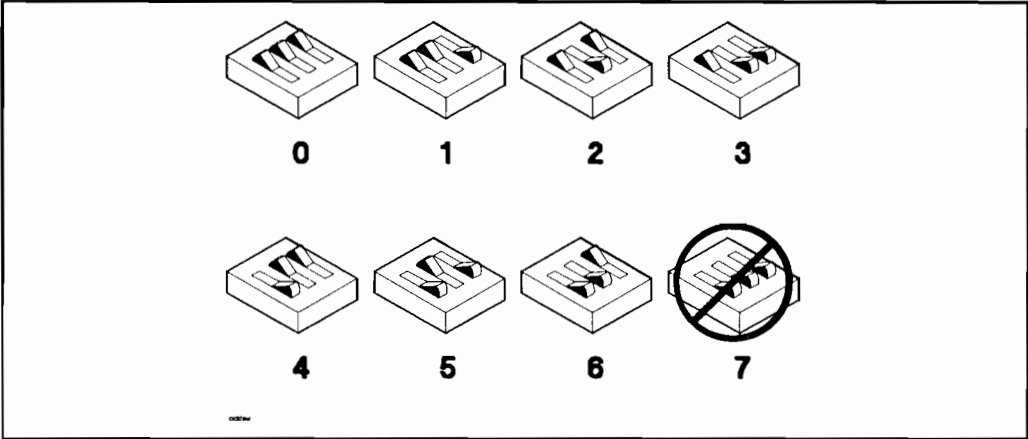
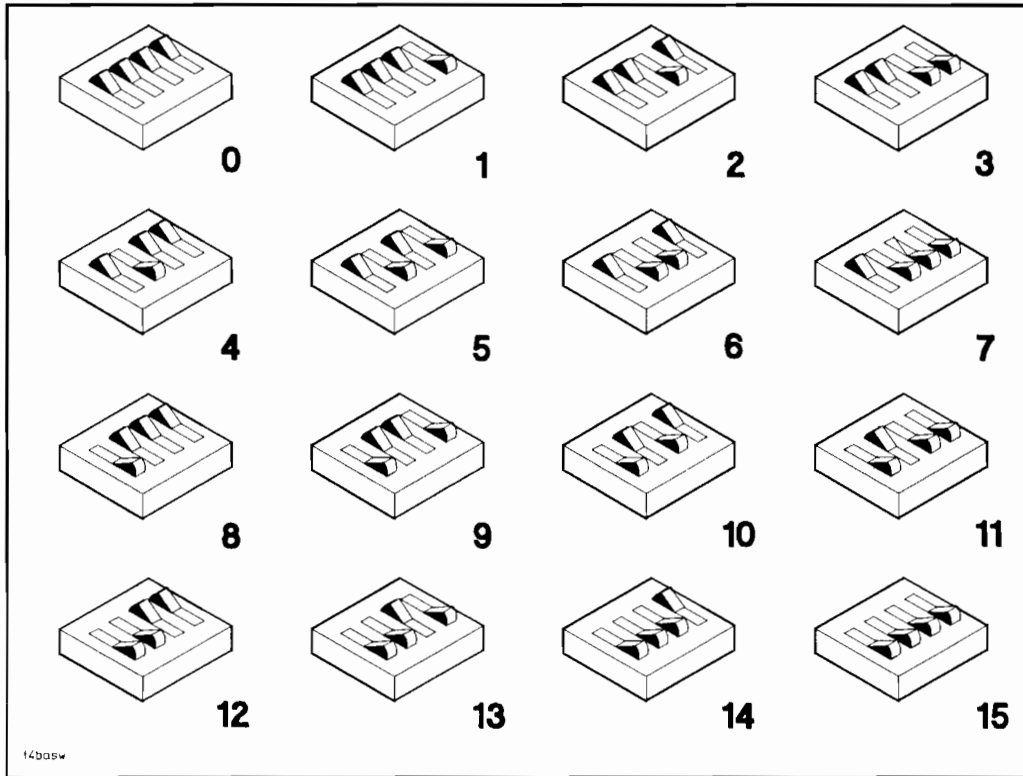

Figure 2-10. 3-Segment SCSI Address Switch Settings
Figure 2-11. 4-Segment SCSI Address Switch Settings
3. Set the address switch to the address you selected (see Figure 2-10 or Figure 2-11).
The address switches for mass storage systems with single-ended or narrow differential SCSI interfaces have three segments (see Figure 2-10). The address switches for mass storage systems with fast and wide differential SCSI interfaces have four segments (see Figure 2-11).